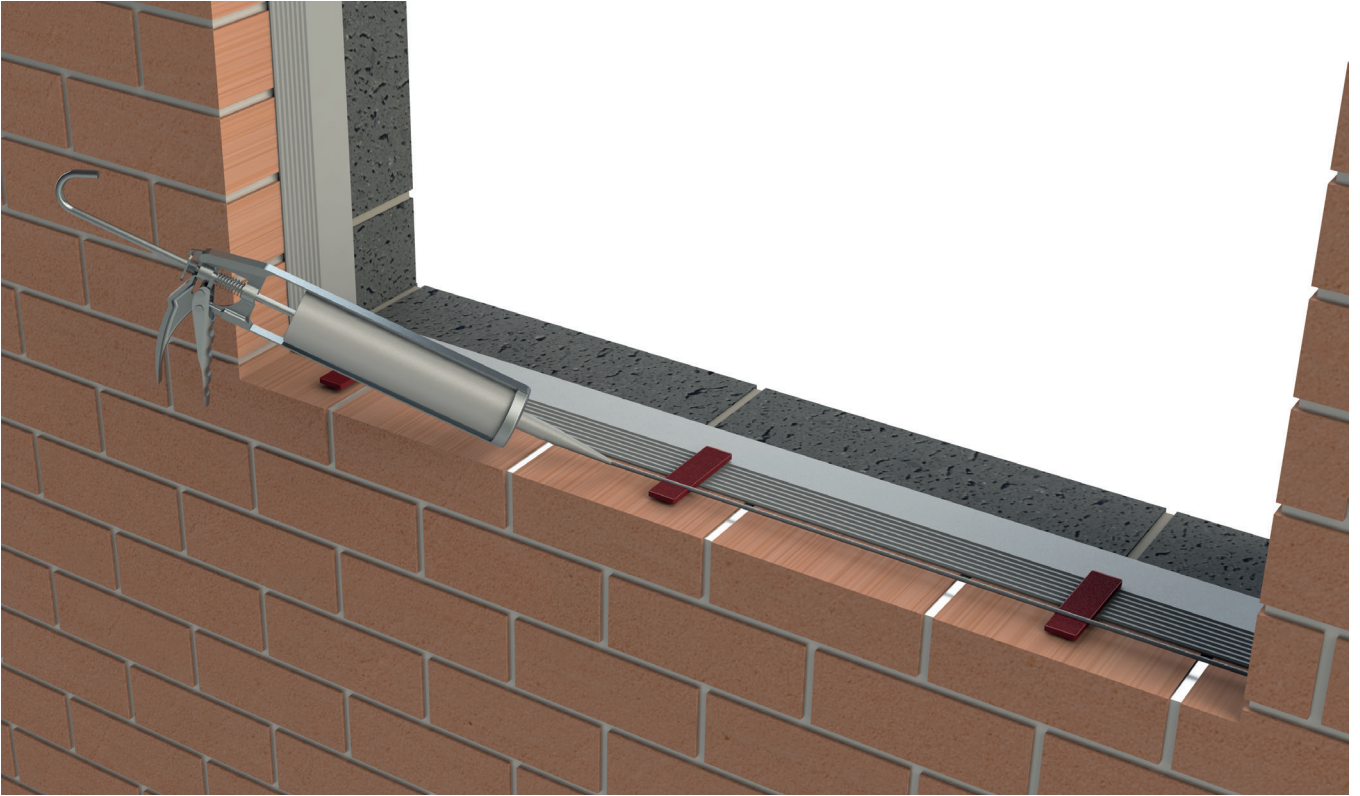

FIG 2
- ▶ **1.2.** Place the window on the pre prepared frame shims and re-check for level. Adjust if necessary. Once complete, remove window from the opening once more. (Fig.2)